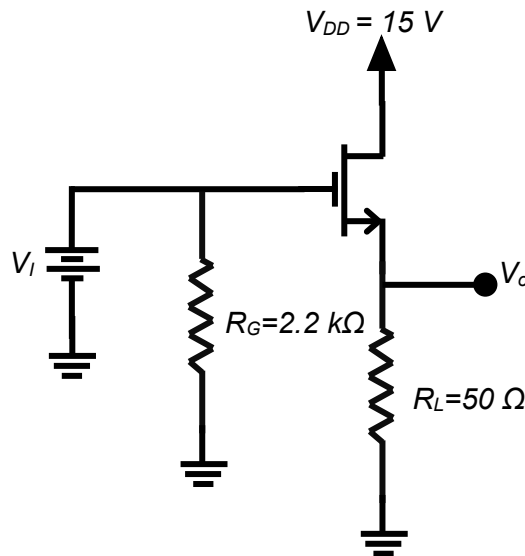
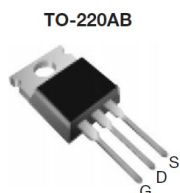

Figure 3. NMOS buffer amplifier.
Figure A2. TO-220AB Package for IRF510 power NMOS transistor.
A buffer amplifier is used when the input signal source is not capable of supplying the load with large current, therefore power, while maintaining the same voltage level as the input. This arises in many practical situations in electronics such as in sending an audio signal to a speaker, where you want the output voltage to be equal to the input voltage but you want the current, or power, to be much larger than what the input signal source can handle. Since the current greatly increases and voltage remains the same, you would expect the output power to also greatly increase. The circuit of Figure 3 is called a Buffer Amplifier (or Common Drain amplifier), which is a power amplifier. In this part, you will investigate the large signal transfer characteristics from the input to the output of the amplifier by varying the input voltage from 0 to V_{DD} .
- For the circuit in Fig. 3, assume V_i will be varied from 0 to V_{DD} (15 V), and calculate the range of the power which is supplied by the input source $V_i = V_G$.
- For the circuit in Fig. 3, assume that V_o will range from 0 to V_{DD} (15 V), and calculate the range of power which can be delivered to the load.
- Using IRF510 NMOS power transistor, connect the circuit of Figure 3. Figure A2 in Appendix A shows the pin assignments for IRF510 transistor. Use one of the decade box power resistors that we have in the lab for R_L , as the resistors that you have in the parts kit can only handle up to 0.25W. Measure and record the resistor values in your lab notebook. Use one DC power supply to supply $V_{DD}=15$ V, and the other DC power supply to be applied at the gate of the amplifier.